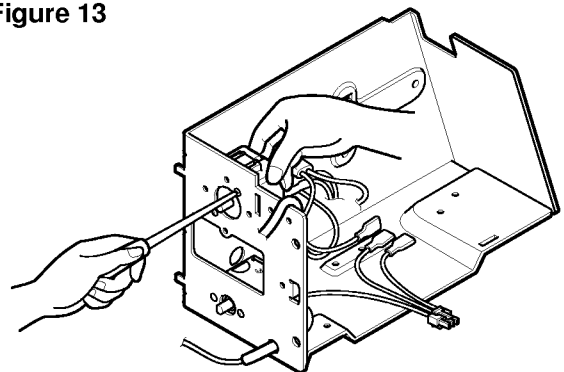

Figure 14
8. Re-install the components by referring to the removed procedure, above. (See figure 14)